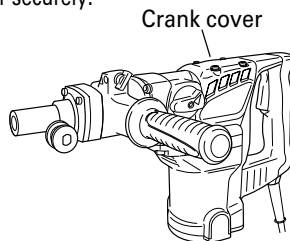

Fig. 18
- (1) Remove the crank cover and wipe off the grease inside. (Fig. 18)
- (2) Apply 2.0 oz (60 g) of HITACHI Electric Hammer Grease A (optional accessory, contained in tube) to the crank case.
- (3) After replenishing the grease, install the crank cover securely.